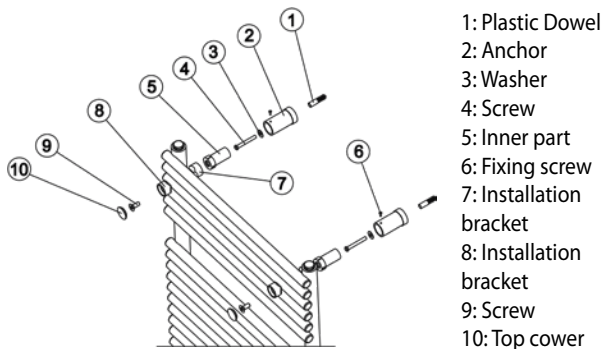
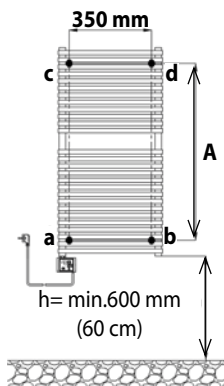

Figure 5: Assembly Parts
Figure 6: Mounting Dimensions
2. Correct space has to be measured in order that the connection cord can easily be connected to the electric socket. After determination of the installation area, the holes must be marked according to the method shown in Figure 6.
3. After marking the points according to Figure 6, the holes will be drilled by a  $\text{Ø}10$  mm drill and the plastic dowels (see figure 5 - part "1") that are in the installation items are inserted to these holes.
4. Attach the anchors (4 pieces) (see figure 5 - part "2") onto plastic dowels with the washer (see figure 5 - part "3") and the screw (see figure 5 - part "4").
5. Then you will fix your towel warmer on the wall with assembly parts 5, 6, 7, 8, 9, 10 as its shown in figure 6.